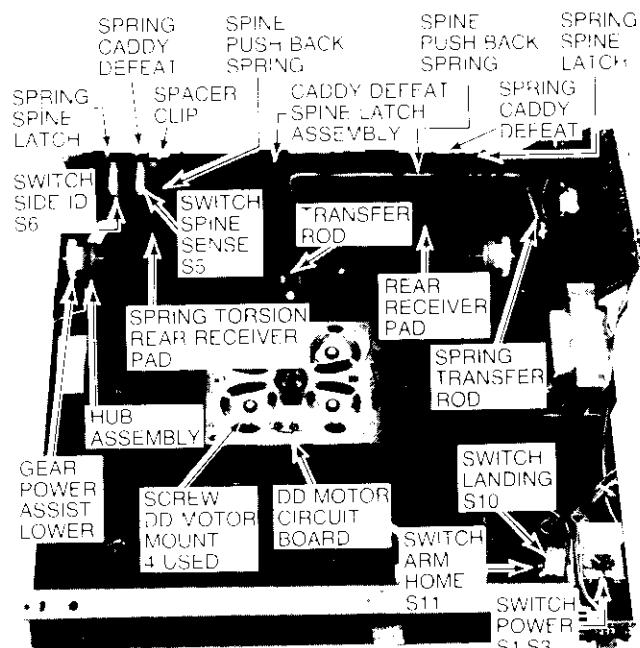

Fig. 19—Miscellaneous Disassembly
- With guide rail assembly and turntable removed—release tension on rear receiver pad assembly torsion spring (Fig. 19) and remove wires to switch S8 from wire guide stud. Move switch and wire out of the way.
- Lift rear receiver pad assembly (Fig. 19) straight up and remove from baseplate.
**Note:** Before replacing rear receiver pad assembly in position apply one (1) full turn of tension to torsion spring.
- With guide rail assembly removed—release caddy defeat springs (Fig. 19) from baseplate studs.
- Remove spacer clip (Fig. 19) from caddy defeat and spine latch assembly.
- Slide caddy defeat and spine latch assembly (Fig. 19) to right—raise left side of assembly to clear mounting stud and slide assembly to left to remove.
- With Guide Rail, Rear Receiver Pad and Caddy Defeat/Spine Latch assemblies removed—release Transfer Rod spring (Fig. 19) from baseplate stud.
- Rotate Transfer Rod (Fig. 19) upward to clear center portion of baseplate.